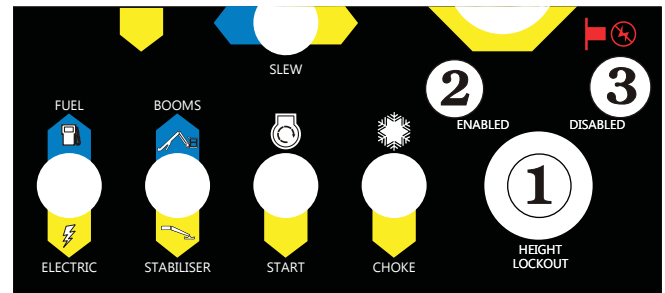

Figure 2 - Key Switch
The key switch ① allows the unit to operate normally so the platform floor height is 12.8m (15m working height) when the **DISABLED** position ③ on the key switch is selected (see Figure 2 / Figure 3).
When the key switch is placed in the **ENABLED** position ② the unit is restricted to a platform floor height of 10.9m (see Figure 2 / Figure 3). The key can only be removed in the disabled position thus